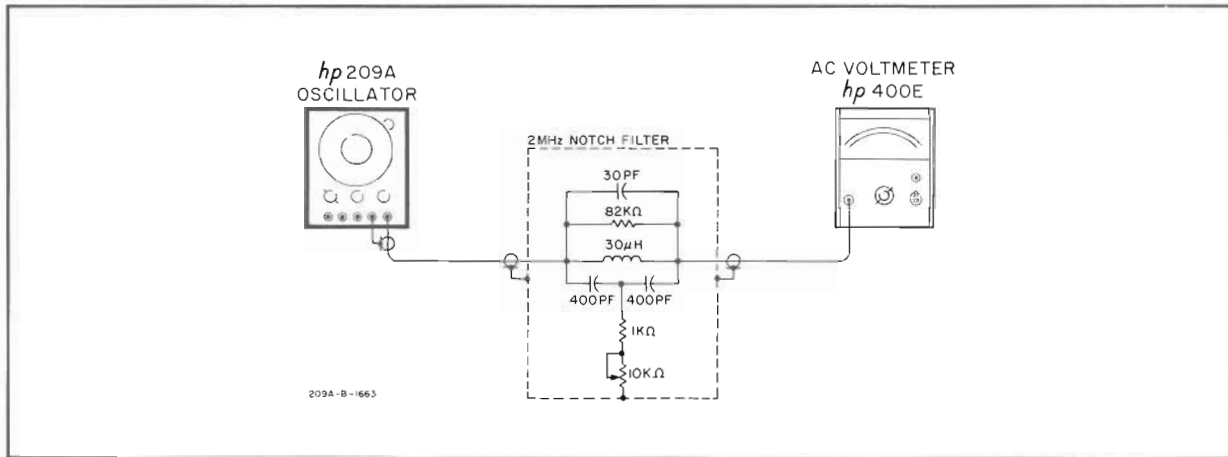

Figure 5-3. 2 MHz Distortion Check
i. Connect the equipment as shown in Figure 5-3.